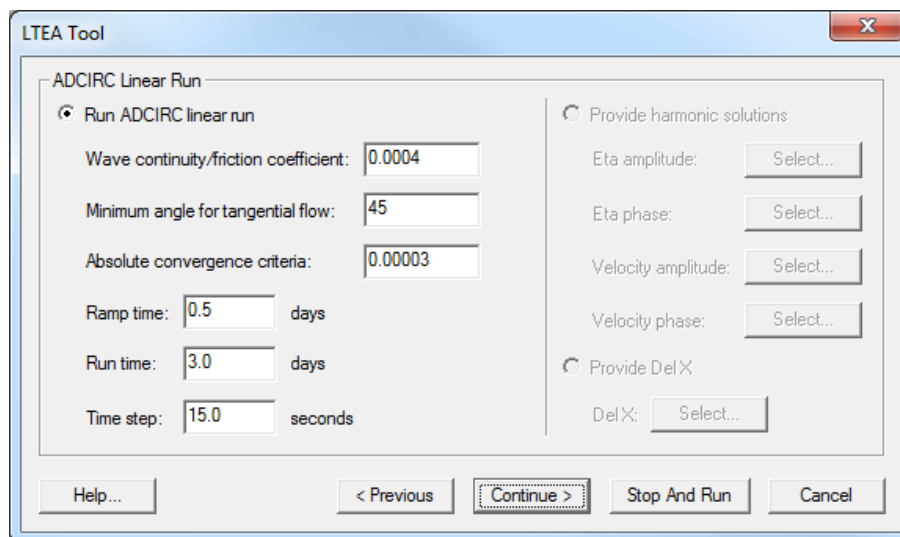

Figure 2 Linear ADCIRC run page of the toolbox
10. Leave all the setting on this page at the defaults (Figure 2) and click the **Continue >** button to move to the next step of the process.